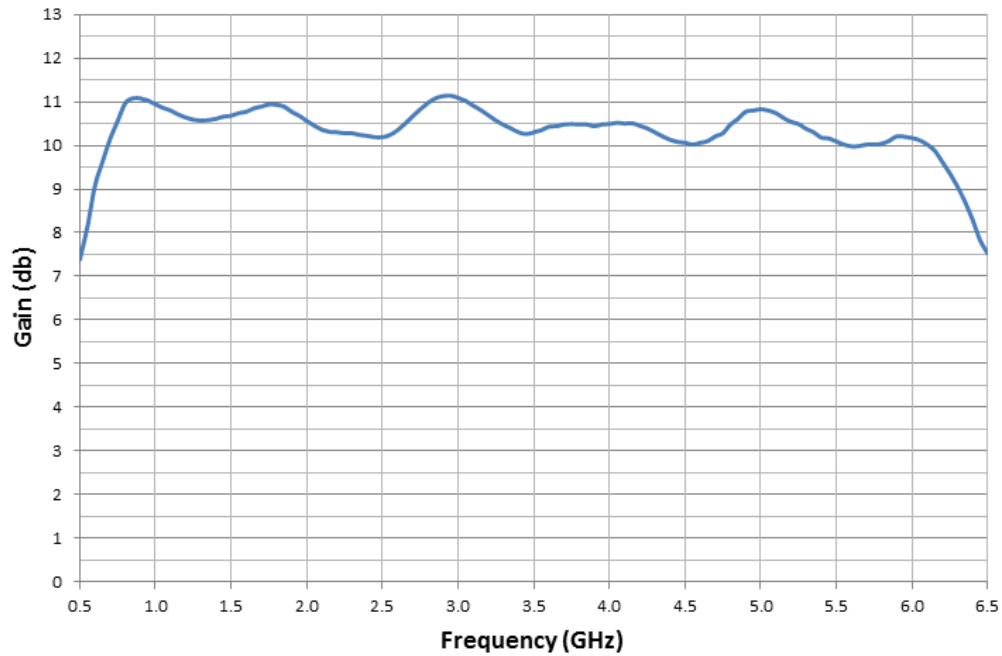

Figure 4-3. Typical Quad Amplifier Response
3. If the gain is slightly low (i.e., several dB below typical), try disconnecting the input and output cables from the A8, A10, A11, A12 and A13 Quad Amps and checking the individual gain. Typical Quad Amp response is shown in Figure 4-3.